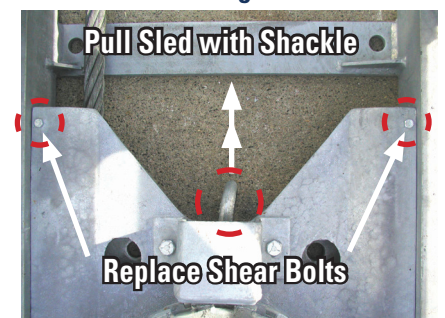

Fig. 6
12. Remove shear bolt remnants in the holes on both sides of the mobile sheaves. These are grade 8 bolts so they can be difficult to remove without a 90 degree pry bar with a claw to pry out. (See Fig. 6)
(See Fig. 6)